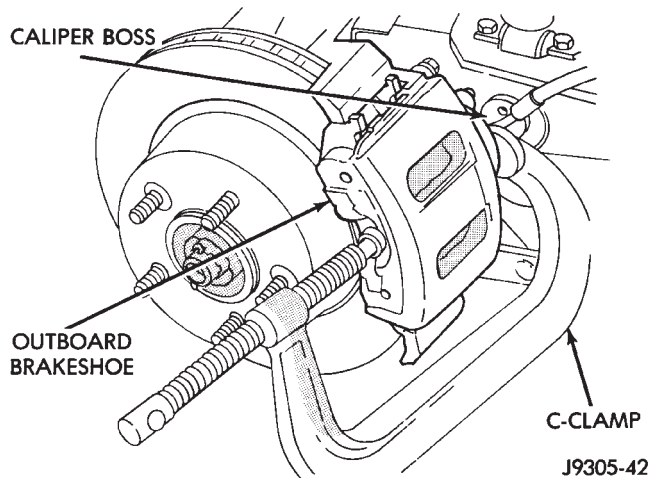

Fig. 3 Bottoming Caliper Piston With C-Clamp
- (1) Raise vehicle and remove front wheels.
- (2) Drain small amount of fluid from master cylinder front brake reservoir with suction gun.
- (3) Bottom caliper piston in bore with C-clamp. Position clamp screw on outboard brakeshoe and clamp frame on rear of caliper. Typical C-clamp attachment is shown in Figure 3. **Do not allow clamp screw to bear directly on outboard shoe retainer spring. Use wood or metal spacer between shoe and clamp screw if necessary.**